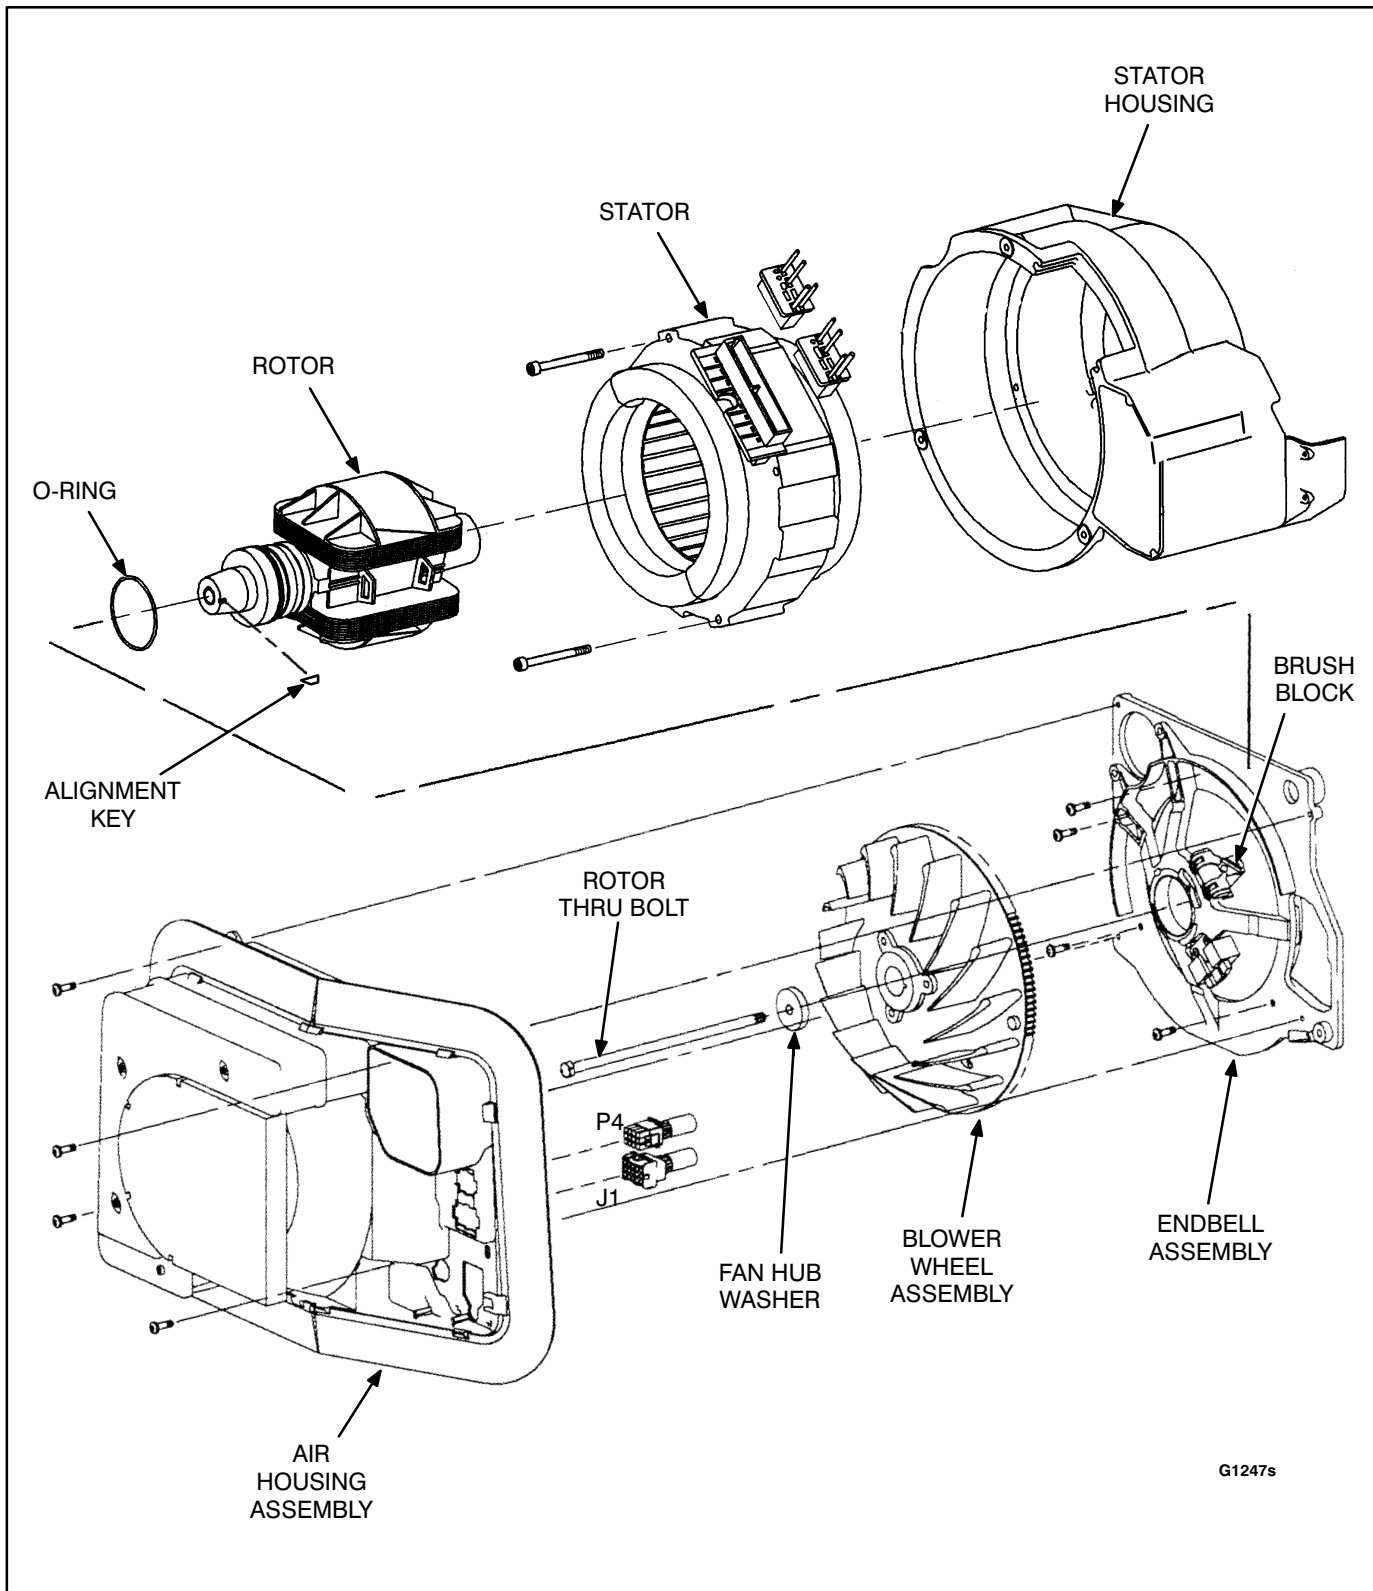

FIGURE 9-2. BEGIN SPEC B GENERATOR COMPONENTS
9-3 and Figure 9-2 on Page 9-4 to identify the various generator components described in each section. Raising the generator and engine assembly above the base assembly is necessary to disassemble the generator. Lifting eyes are provided on the starter bracket and endbell assembly on the Spec A models. A lifting hoist will be required for this step.
8. Remove the air housing assembly from the endbell (Figure 9-2 on Page 9-4).